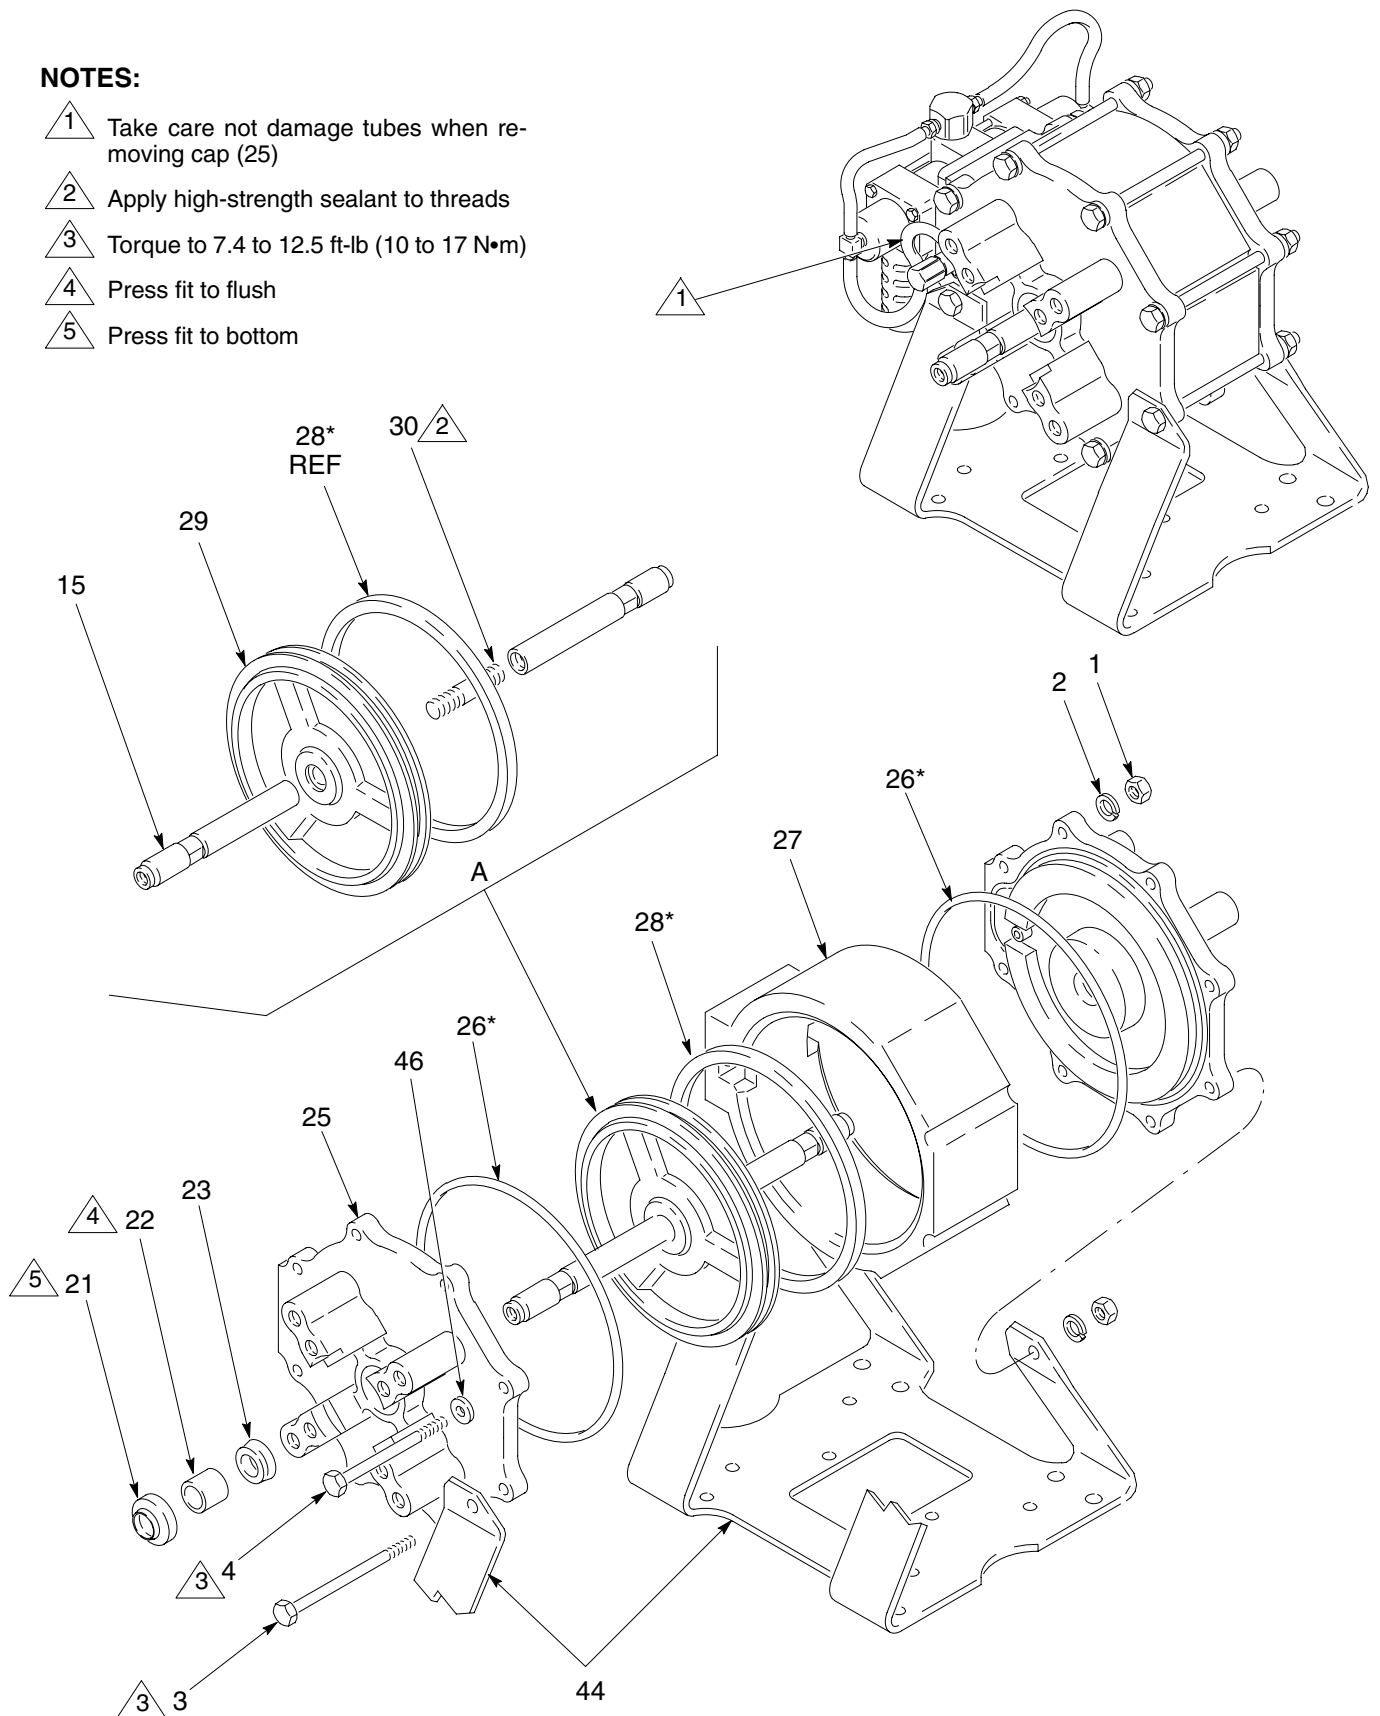
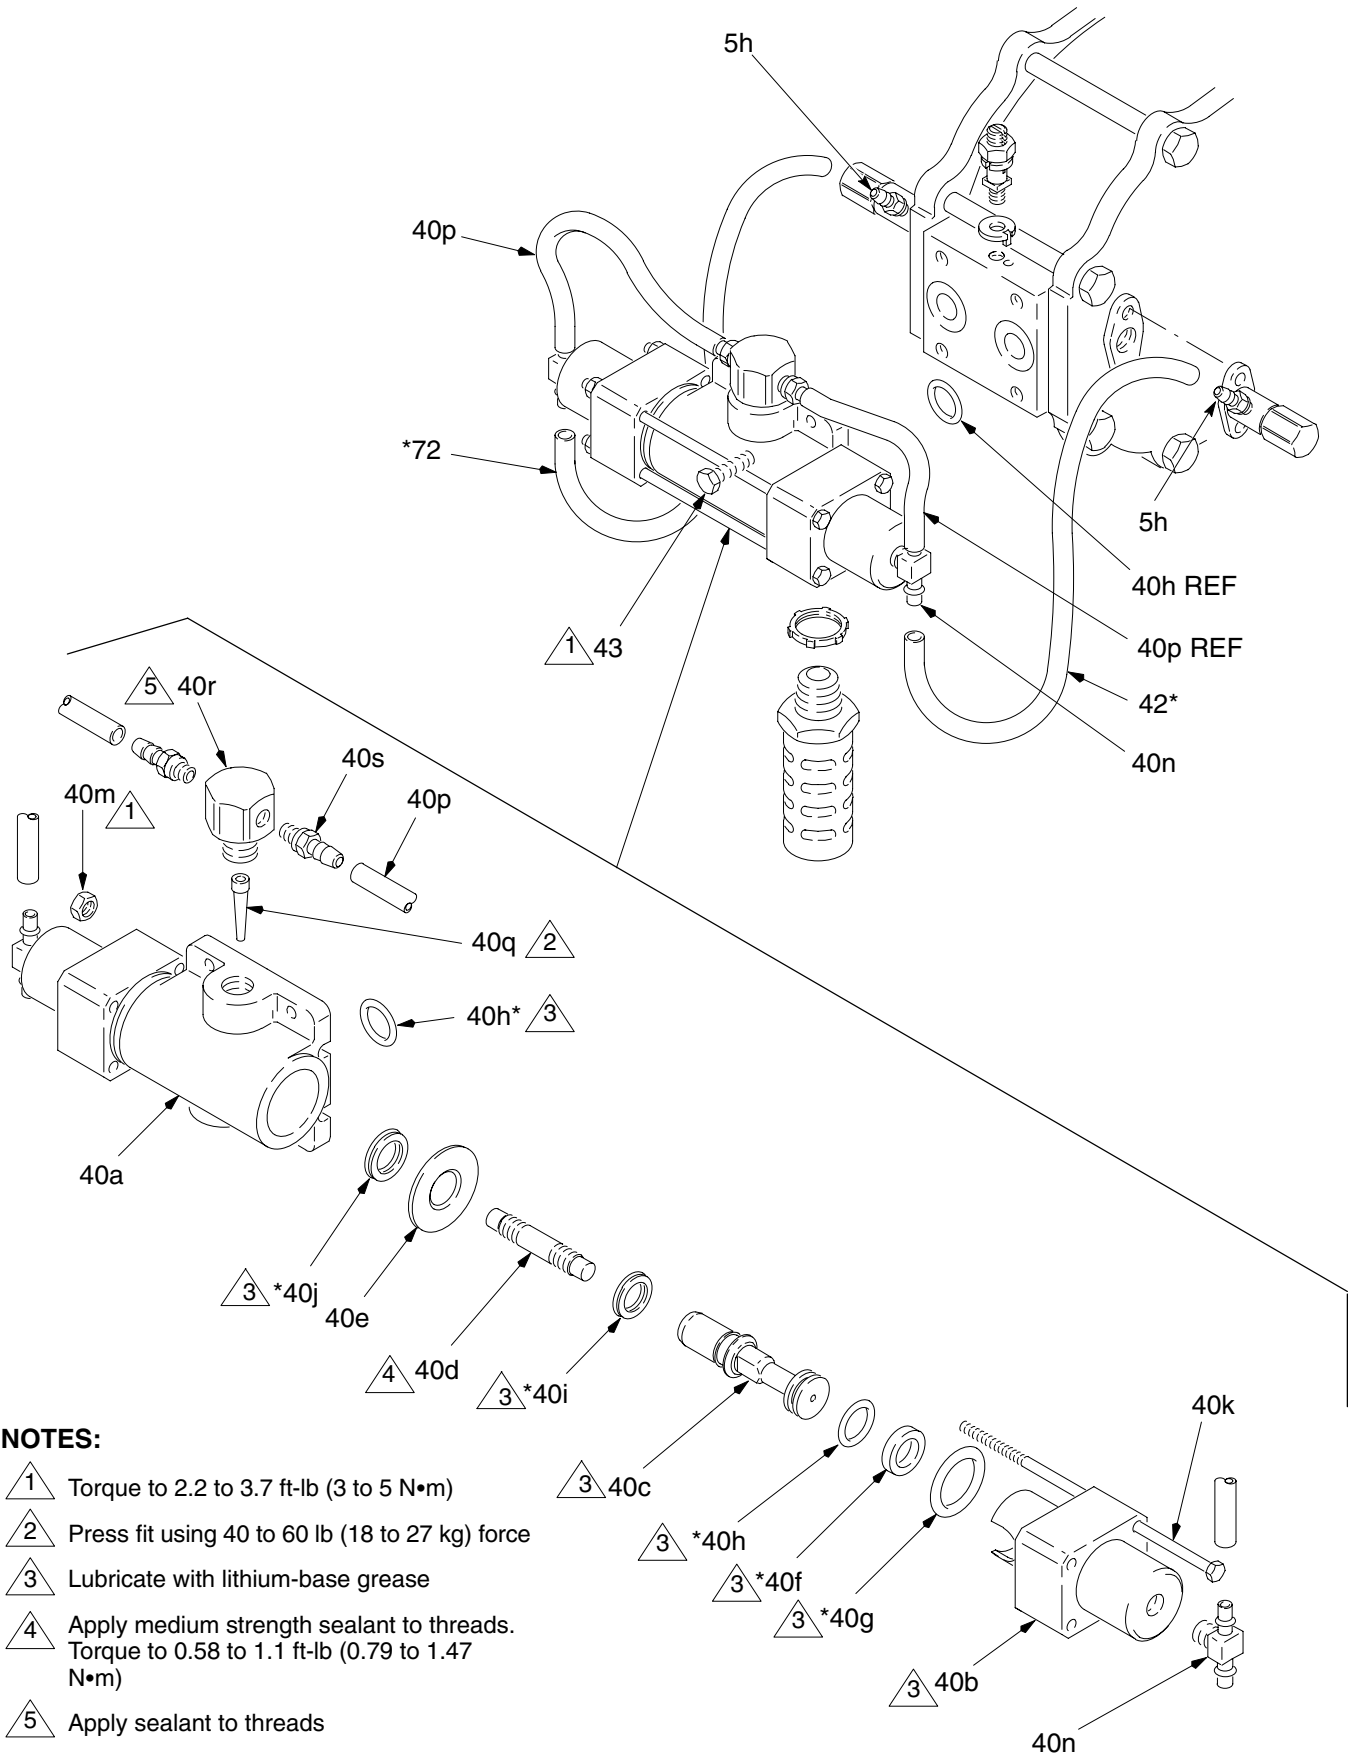

Fig. 7
Fig. 8
3. Remove the screws (3 & 4), washers (46), nuts (1), and lockwashers (2) from the cylinder cap (25). See Fig. 7.
4. Remove the pump from the mounting bracket (44).
5. Remove the cylinder cap (25) from each end of the air motor. If the hoses aren't disconnected or the pilot valves removed, be careful not to pull on the hoses when removing the caps.
1. Apply lithium base grease to all packings, seals, and the inside of the air motor cylinder (27) before assembling.
2. If the piston shafts (15) were removed from the piston stud (30), apply high strength sealant (such as Loctite®) to the threads of the piston stud, and assemble as shown in Fig. 7.
3. Install the quad ring (28\*) in the groove on the piston (29). Install the piston assembly (A) into the air motor cylinder (27).
4. Install a u-cup (23\*) into each of the cylinder caps (25). The lips of the u-cup must face in, towards the center of the pump, as shown in Fig. 8.
5. If the bearings (22) were removed, install a bearing into each cylinder cap (25). Press fit the bearing to flush, using an arbor press.
6. Install a shaft wiper (21) into each cylinder cap (25) with the brass part of the wiper facing out, away from the center of the pump, as shown in Fig. 8. Carefully press the wiper into place, taking care to avoid damaging the brass piece.
7. Install an o-ring (26\*) into the groove in each of the cylinder caps (25). Slide a cylinder cap (25) onto each end of the air motor. Align flat edges with air valve.
8. Secure the mounting bracket (44) and cylinder caps (25) on the pump with the screws (3 and 4), washers (46), nuts (1), and lockwashers (2). Torque the screws oppositely and evenly to 7.4 to 12.5 ft-lb (10 to 17 N•m).
2. Cut a small slit in the tube ends (72\*, 42\*, 40p\*) and disconnect them from the pilot valve fittings (5h), air valve tees (40n), and barb fittings (40s). See Fig. 8.
5. If the air filter (40q) needs cleaning or replacement, unscrew the filter housing (40r) and remove the filter. To clean them, soak the filter housing and the filter in solvent until they are clean. Blow them dry with low pressure air [under 30 psi (207 MPa, 2.1 bar)]. Press fit the filter into the housing, using 40 to 60 lb (18 to 27 kg) of force. Refer to Fig. 8. Apply sealant to the filter housing threads and turn it into the center housing (40a).
9. Install the air valve on the pump with the four cap screws (43). Torque them alternately and evenly to 2.2 to 3.7 ft-lb (3 to 5 N•m).
10. Connect the new tubes (72\*, 42\*, 40p\*) to the pilot valve fittings (5h), air valve tees (40n), and barb fittings (40s), as shown in Fig. 8.